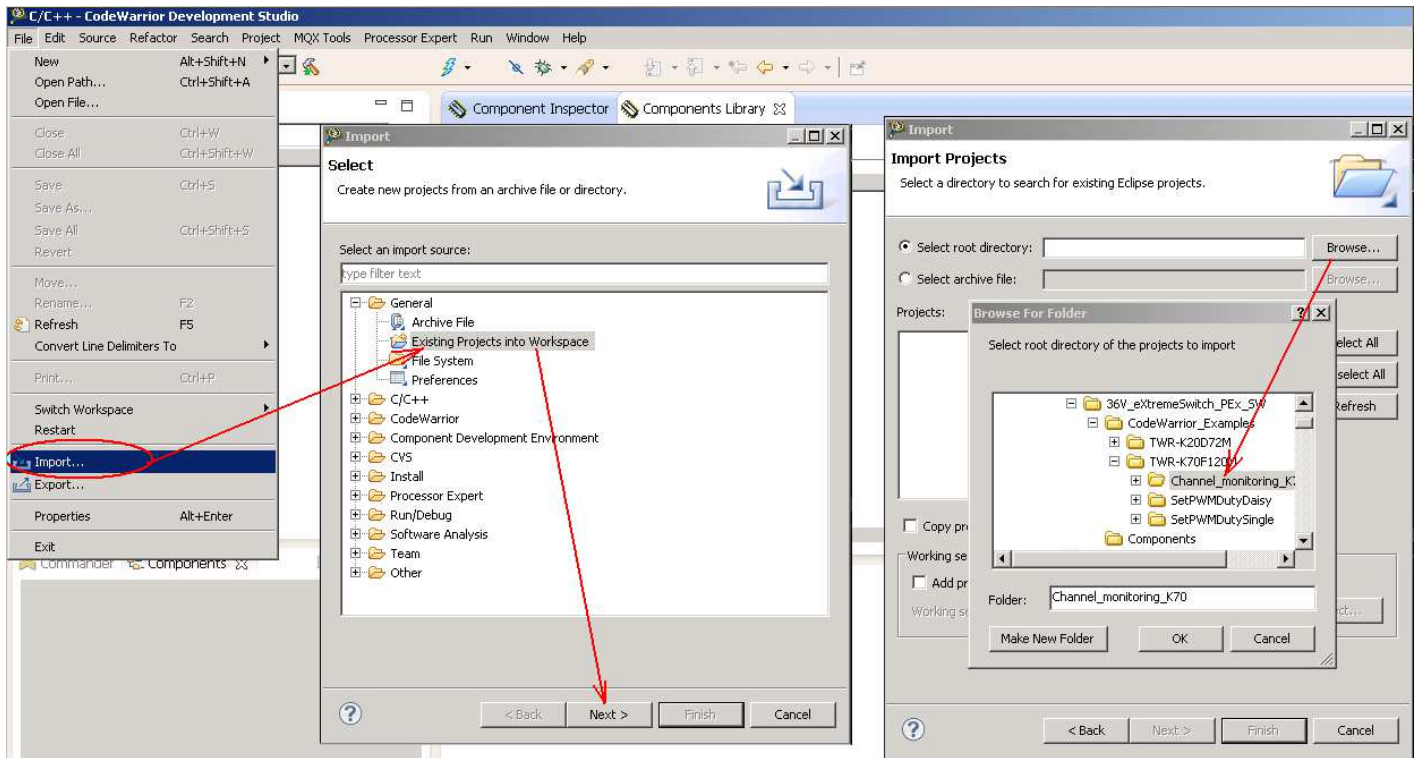

Figure 10. Import Example Project into CodeWarrior 10.x
- Figure 10 diagrams how to import the downloaded example project into CodeWarrior 10.x.